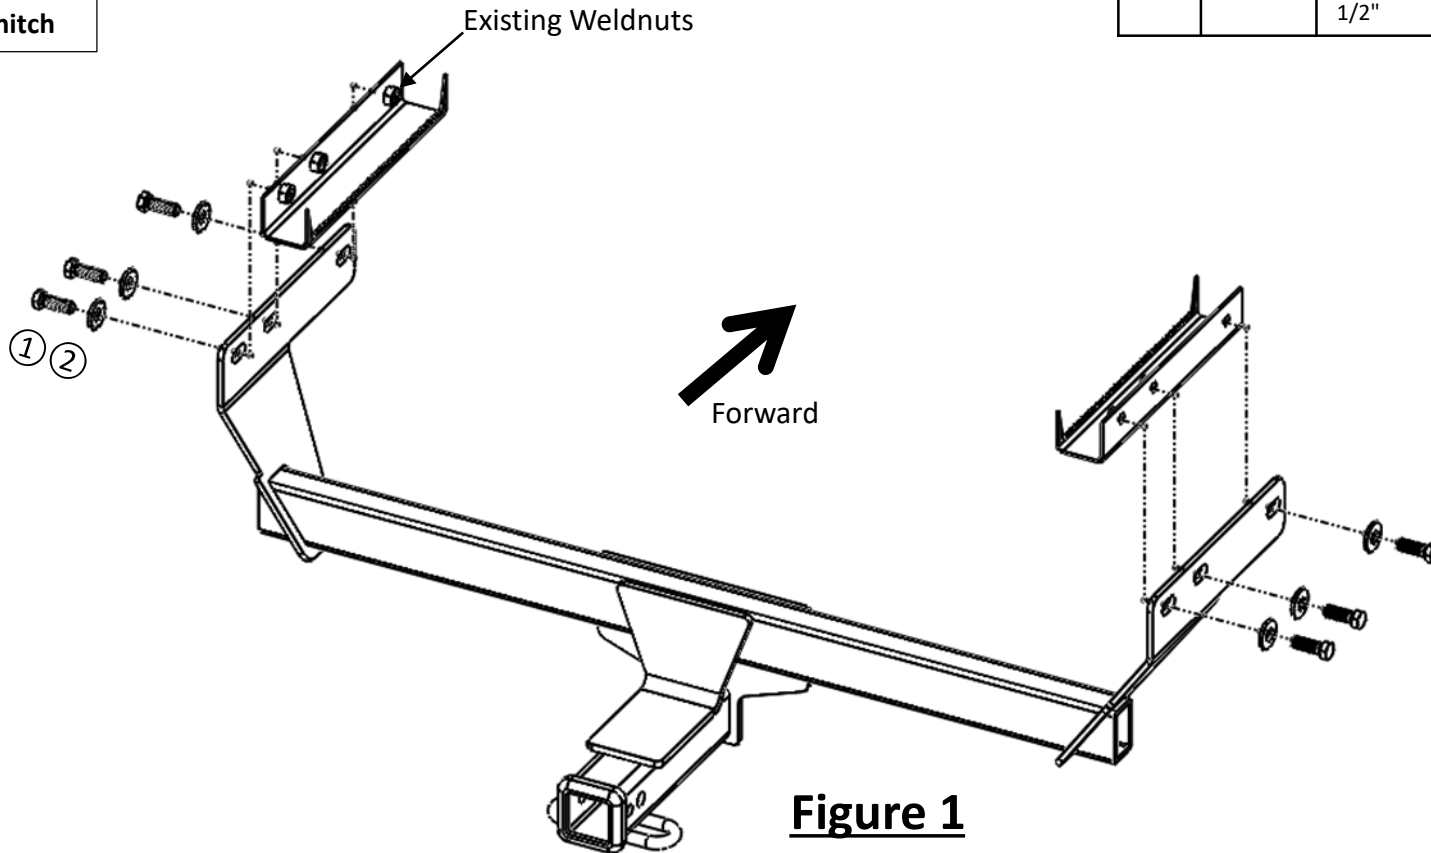

Figure 1
- 2. Install hitch** – Raise hitch into position and align with mounting hole. Loosely install (6) M12 bolts ① and (6) 1/2" conical washer ②, see **Figure 1**.
2. **Install hitch** – Raise hitch into position and align with mounting hole. Loosely install (6) M12 bolts ① and (6) 1/2" conical washer ②, see Figure 1.